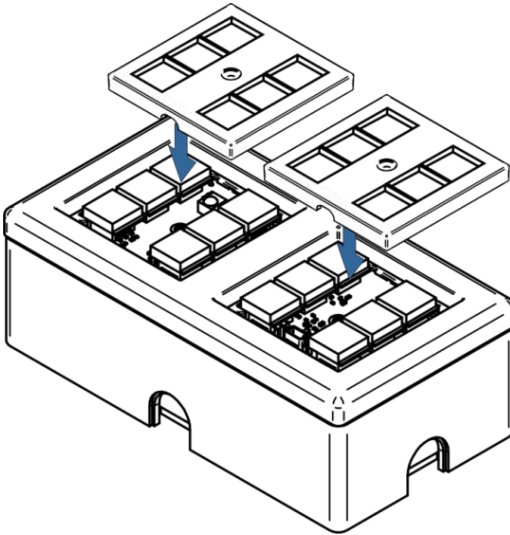

Figure 11: Placing the Faceplates
7. Place the faceplates over the frame while fitting the buttons in (for the **RC-76M** you need to attach one button faceplate and one blank faceplate), see Figure 11.